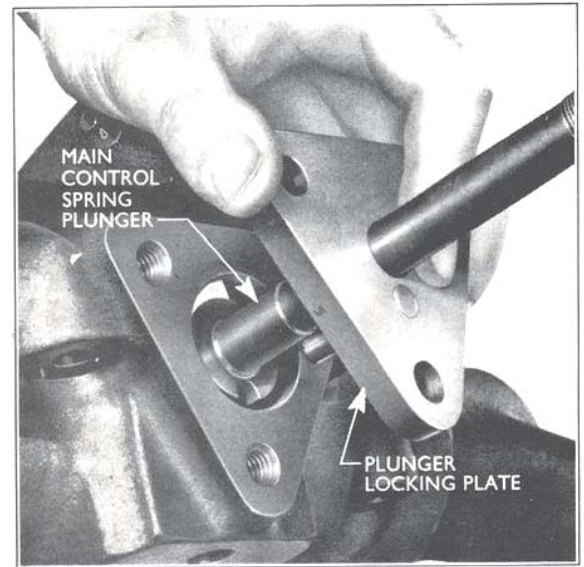

Fig. 37
21. Fit the main control spring plunger locking plate so that the pin on the plate registers with the slot in the forward end of the plunger. (See Fig. 37.)